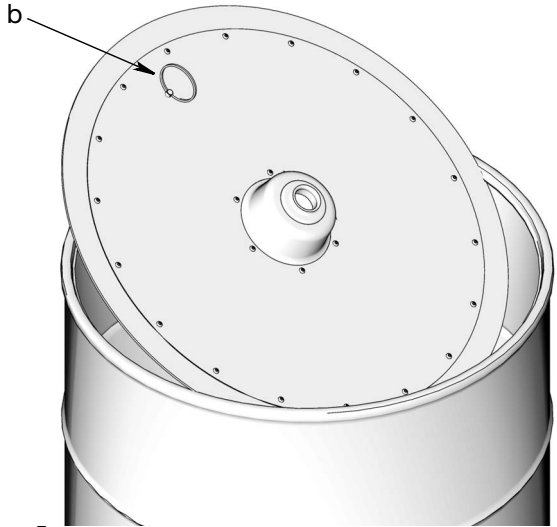

FIG. 6
- 4. If this is an existing installation, reach into drum and pull on follow plate ring (b) to remove follow plate (FIG. 6). Place follow plate on a clean paper, cardboard or clean shop rags. **DO NOT PLACE ON SHOP FLOOR.**